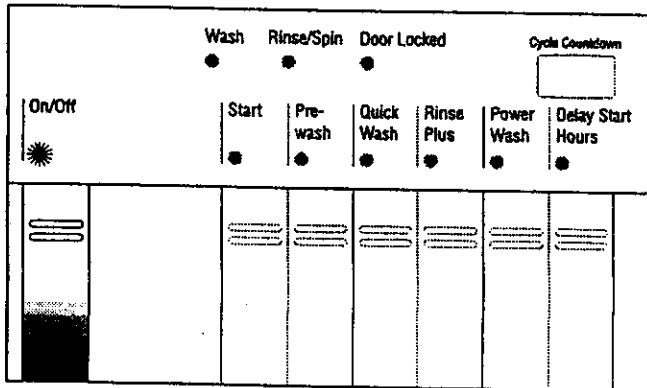

Figure 7.
- II. Press the "ON/OFF" button (Figure 7, below). The "ON/OFF" indicator light will become illuminated and the "START" indicator light will begin to flash.